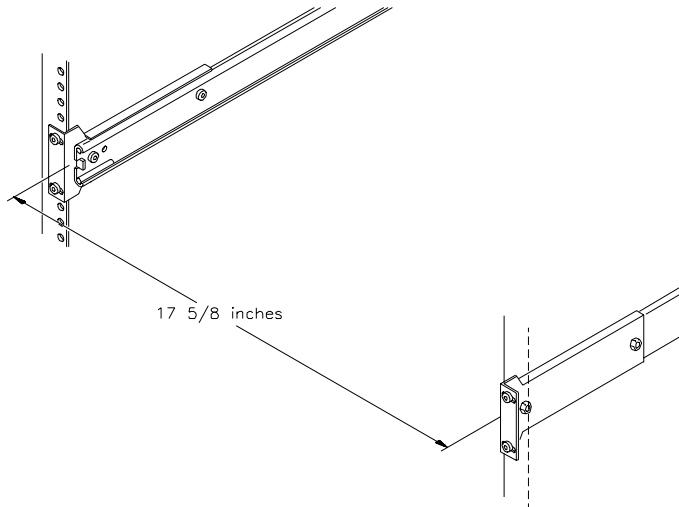

Figure 1-5 Adjusting the distance between the front mounting brackets
- As shown in Figure 1-5, adjust the distance between the front mounting brackets to $17\frac{5}{8}$ inches (44.8 cm).